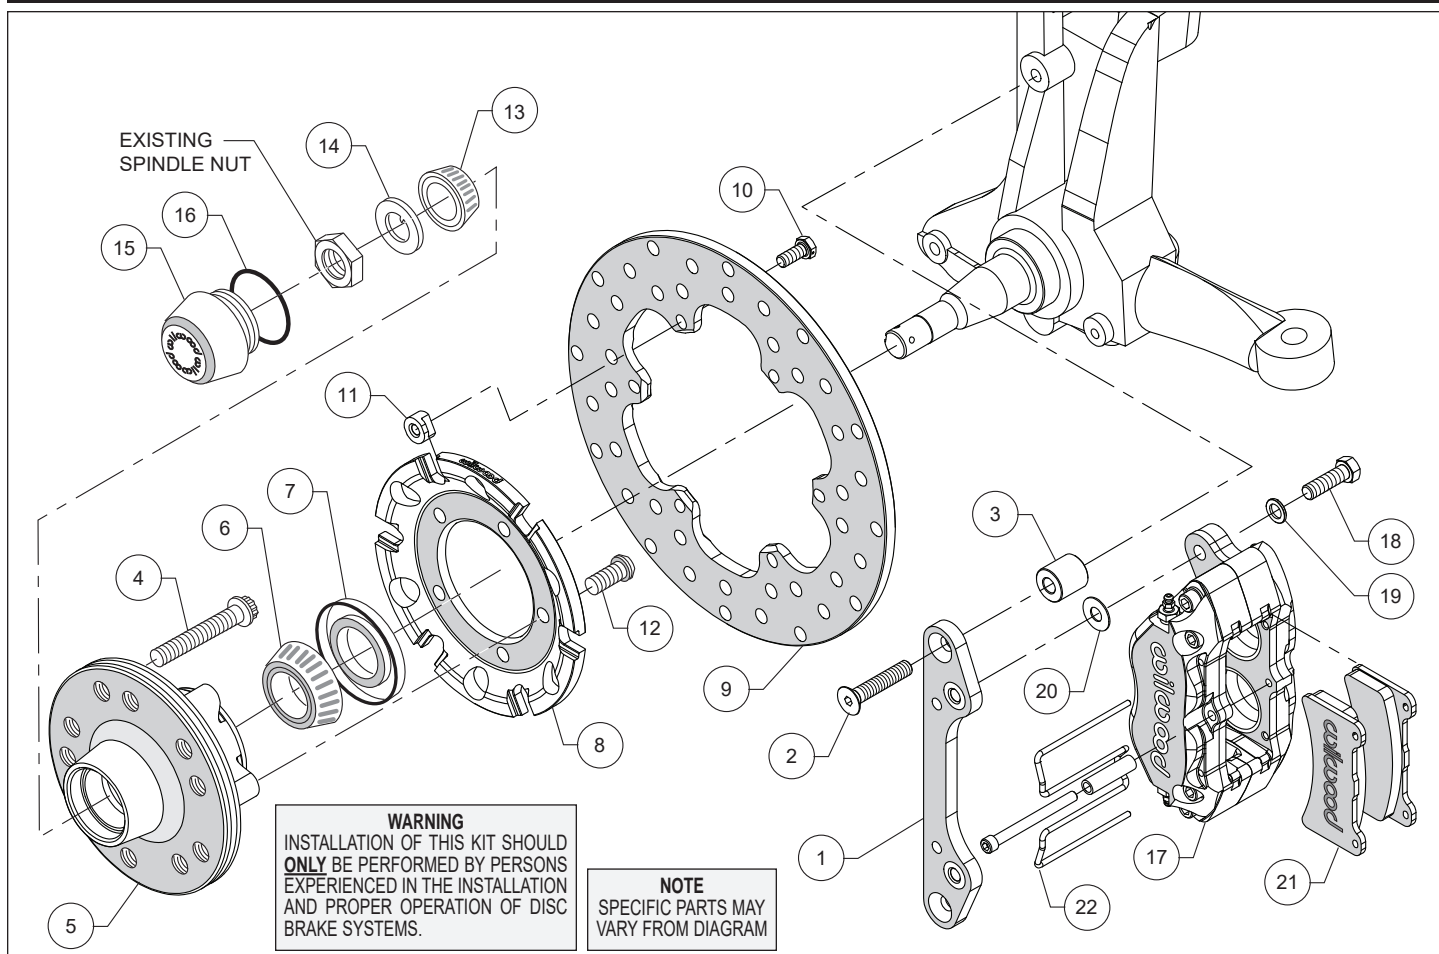
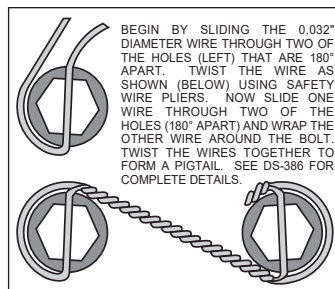
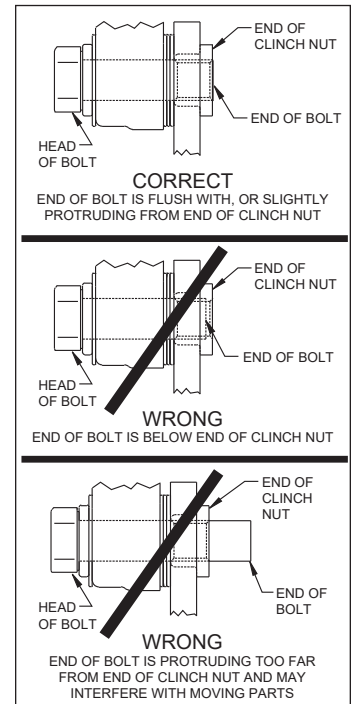

Figure 2. Typical Installation Configuration
Figure 4. Safety Wire Diagram
Figure 5. Clinch Nut Engagement Diagram
Assembly Instructions (numbers in parenthesis refer to the parts list, on the preceding page and Figure 2): **CAUTION:** All mounting bolts must fully engage clinch nuts. Be sure to check that all bolts are either flush or protruding through flanged side of clinch nut after shimming, Figure 5.
- Orient the caliper mounting bracket (1) as shown in Figure 2 and Photo 1. Attach using bolts (2) and spacers (3), Figure 2. Temporarily tighten the mounting bolts. Ensure that the flanged heads of the clinch nuts in the bracket are facing outboard, Photo 1. **NOTE:** The bracket must fit squarely against the mounting points on the spindle. Inspect for interference from casting irregularities, machining ridges, burrs, etc. Remove bolts one at a time, apply red *Loctite*® 271 to threads and torque to 30 ft-lbs.
- Orient the rotor (9) and the rotor adapter (8) as shown in Figure 2 and Photo 4. Attach the rotor to the adapter using bolts (10) and T-nuts (11). Using an alternating sequence, apply red *Loctite*® 271 to the threads, and torque to 220 in-lb. Safety wire bolts using standard 0.032 inch diameter stainless steel safety wire as shown in Figure 4. Refer to Wilwood's data sheet DS-386 (available at www.wilwood.com/Pdf/DataSheets/ds386.pdf) for complete safety wire installation instructions.
- Mount the adapter/rotor assembly (8 and 9) to the hub (5) using bolts (12), as shown in Figure 2 and Photo 5. Using an alternating sequence, apply red *Loctite*® 271 to the threads, and torque to 45 ft-lb.
as shown in Figure 2. Initially place one .035" thick shim (20) on each bolt between the caliper and the bracket, Photo 8. Temporarily tighten the mounting bolts and view the rotor (9) through the top opening of the caliper. The rotor should be centered in the caliper, Photo 9. If not, adjust by adding or subtracting shims (20) between the bracket and the caliper. Always use the same amount of shims on each of the two mounting bolts. **NOTE:** The end of each bolt must be flush with or slightly protruding from the head of the clinch nut, as shown in Figure 5. If necessary place spare shims (20) between washer (19) and caliper mounting ear to achieve the proper clinch nut engagement. Once the caliper alignment and clinch nut engagement are correct, remove the bolts one at a time, apply red *Loctite*® 271 to bolt threads, and torque to 40 ft-lb. For an added measure of security, the bolts may be safety wired using standard 0.032 inch diameter stainless steel safety wire as shown in Figure 4. Refer to Wilwood's data sheet DS-386 (available at www.wilwood.com/Pdf/DataSheets/ds386.pdf) for complete safety wire installation instructions.